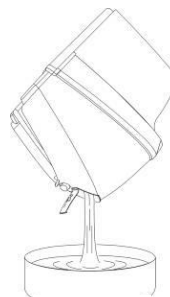

Fig 4
4. Empty the water in the tank holding on it upside down as fig.4